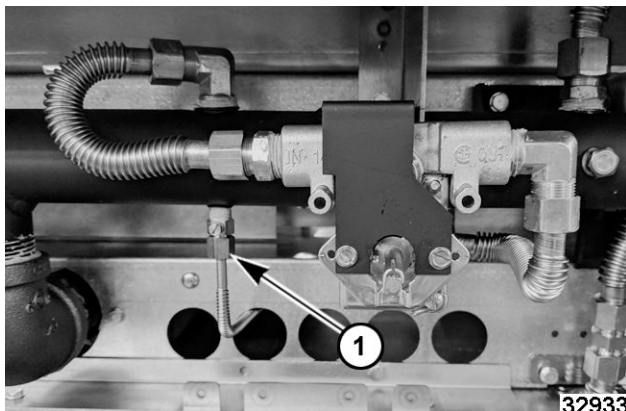

Fig. 102
3. Disconnect pilot flex tube (1, Fig. 102).